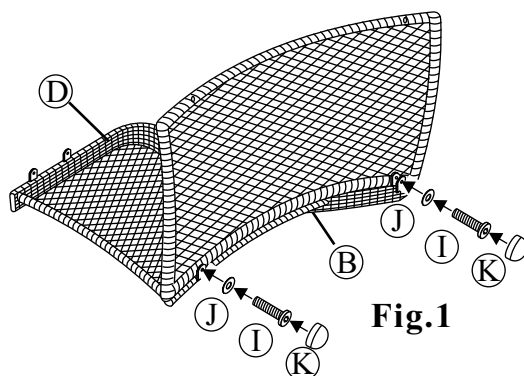
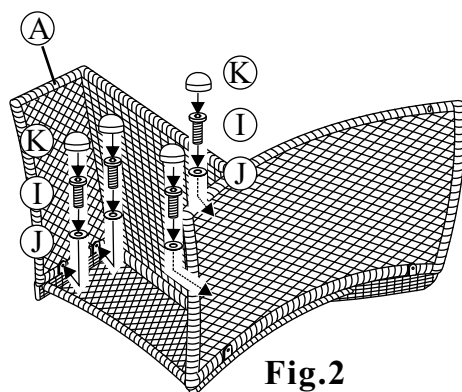
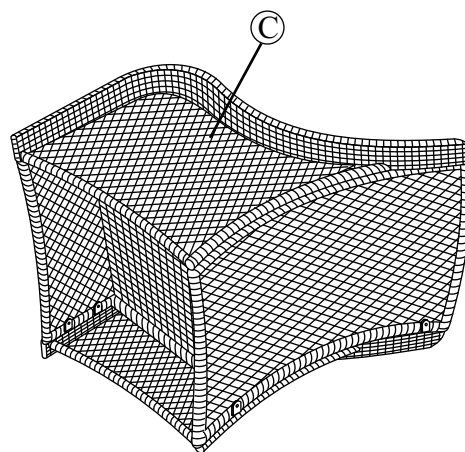

Fig.1
Fig.2
Fig.3
- 1 Assemble furniture on a smooth, non-abrasive surface. Attach the back frame to right arm by using two 1/4"x18 mm bolts and washers as shown in **Fig.1**. Guide the bolts through holes in back frame, into pre-drilled holes in the right arm. **Hand tighten only**. Attach the seat frame to right arm and back frame by using four 1/4"x18 mm bolts and washers as shown in **Fig.2**. **Hand tighten only**. Attach the left arm to back and seat frame by using four 1/4"x18 mm bolts and four washers as shown in **Fig.3**. **Hand tighten only**.